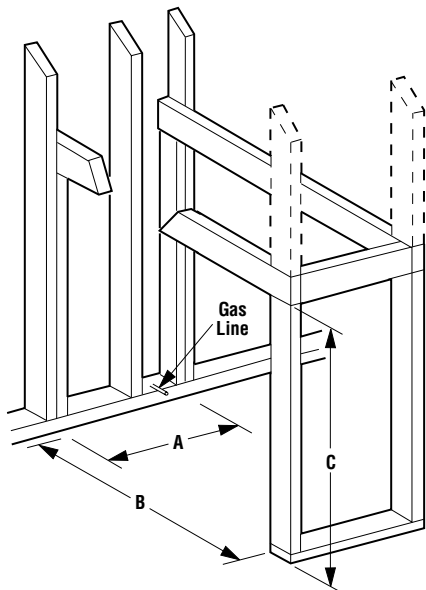

Figure 4
**Step 1.** Frame the CFST appliance as illustrated in *Figures 4 and 5*. Frame the CFPF appliance as illustrated in *Figures 7 and 8*.